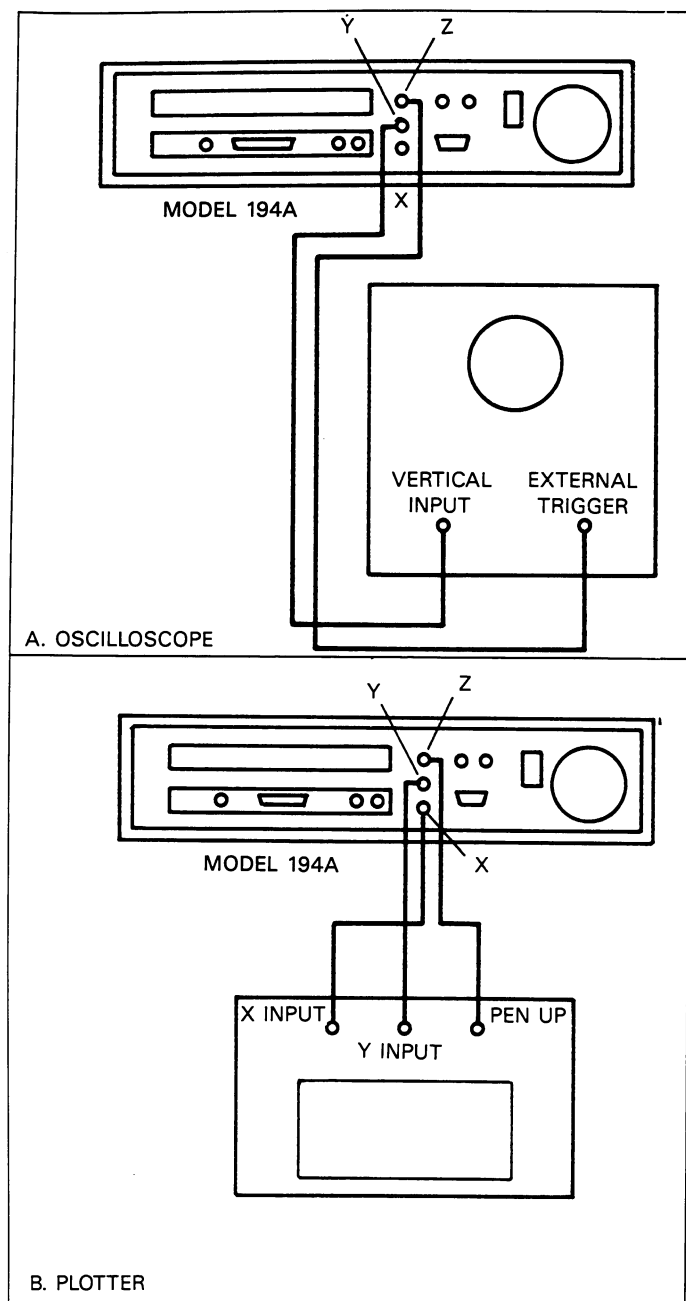

Figure 3-31. Typical Digital Oscilloscope Connections
The XY analog output is used to drive the graphing device regardless of the plot mode selected. Figure 3-31 shows typical connections for the oscilloscope and plotter modes. With the oscilloscope mode in (A), the Y output is used to drive the vertical input of the scope, while the Z output is connected to the external trigger input. With the plotter in (B), the X and Y outputs drive the X and Y inputs of the plotter, while the Z output provides a pen up signal for the plotter.